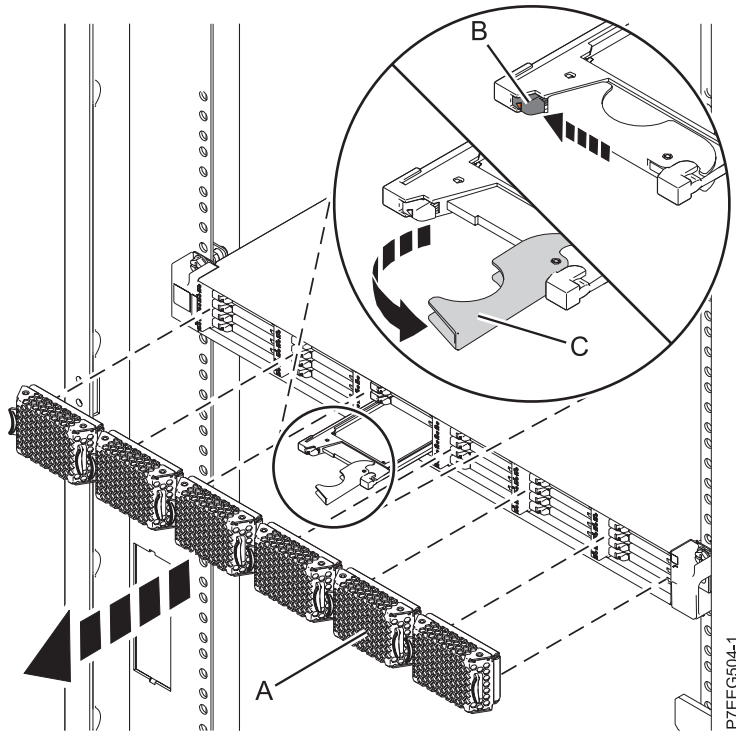

Figure 18. Removing the solid-state drive from the 58/88 PCIe storage enclosure
1. Pull off the bezel (A) that covers the slot that contains the solid-state drive. See Figure 18 on page 32.
2. Slide the release latch (B) over gently to unlock the drive handle.
3. Grasp the handle (C) and pull the drive partially out of the slot.